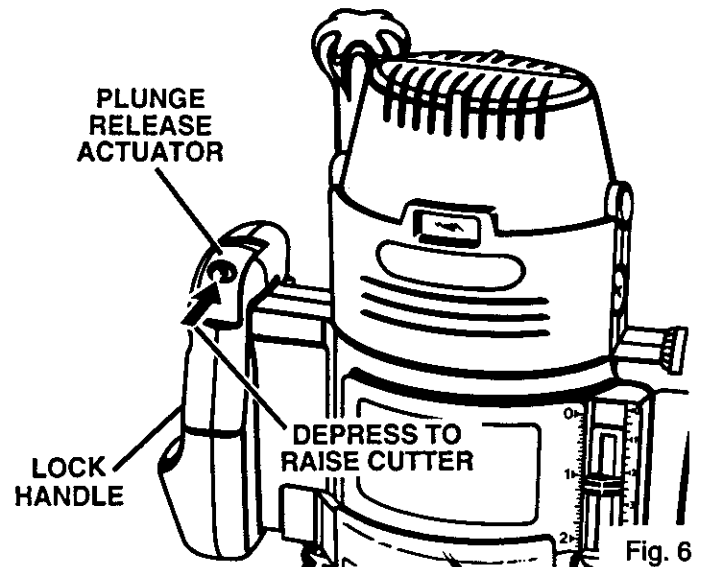

Fig. 6
See Figures 6, 7, and 8.
- Raise cutter by depressing plunge release actuator. See Figure 6.